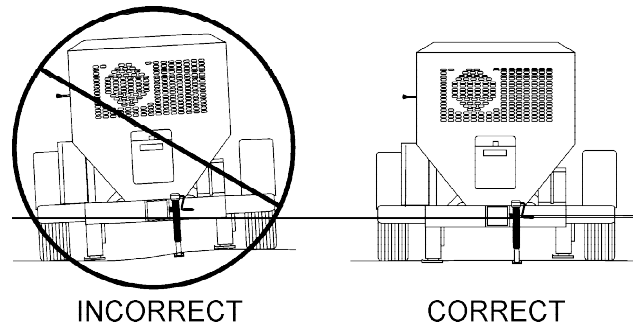

Figure 17. Rear Stabilizer Stand Deployment
3. Position both rear stabilizers jacks on firm (not loose) **level** ground (Figure 17).